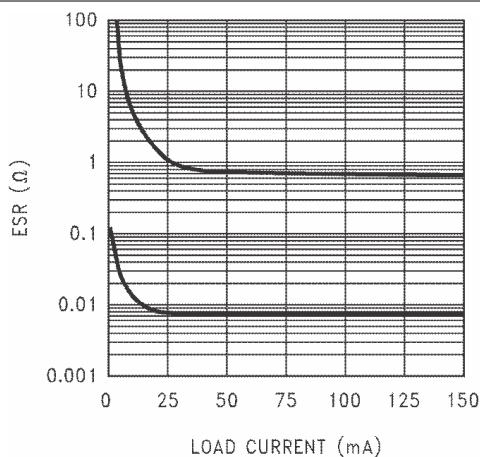

图 6-18. 2.2- μF Stable ESR Range for Output Voltage $\leq 2.3 V$
- ESR range: see 图 6-18 through 图 6-20